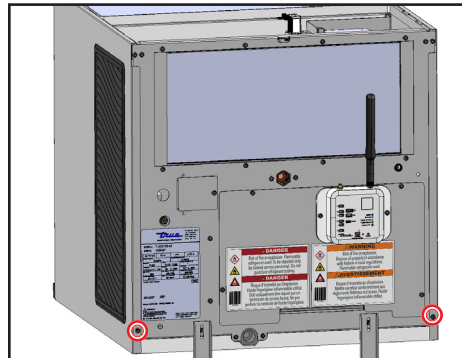

Fig. 3. Side panel screw locations.
4. Remove the side panel(s). See figs. 3 and 4.